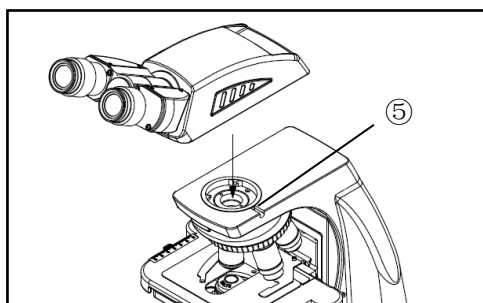

Fig.29
2. On the wireless digital viewing head, ① is connected to the mouse; ② is the power socket, connected to the power supply; ③ is the HDMI interface, the other end can be connected to the computer or mobile phone with Touchscope Pro software; ④ is connected to the network cable.
5.2 Installing (Fig.29)
Mount the digital viewing head according to the assembly path in Fig.29 into the round dovetail of the microscope and tighten the screw⑤ to fix the viewing head.